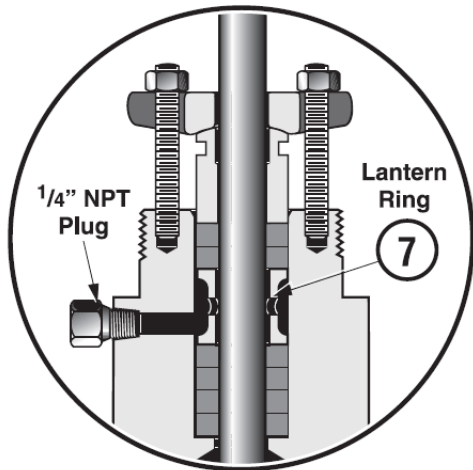

Figure 2: Lubricator Connection (Optional)
- A. Loosen and remove packing flange nuts (3).
- B. Lift the packing flange (4) and packing follower (5) up the valve stem.
- C. By means of a hooked instrument, remove packing (6) insuring not to damage the sealing surfaces of the packing box or plug stem.
**NOTE:** On valves equipped with an optional lubricator connection, the lantern ring (7) must also be removed to gain access to lower packing rings.
- D. Replace packing rings (6).
**NOTE:** On valves equipped with an optional lubricator connection, refer to Figure 2 for correct amount of rings to place under the lantern ring (7).
- E. Replace packing follower (5) and packing flange (4).
- F. Replace and tighten packing stud nuts (3).
- J. If a leak detection connection was installed, connect it on the lateral NPT port in the bonnet. If not, insure that the 1/4" NPT plug remained in place (Figure 2).